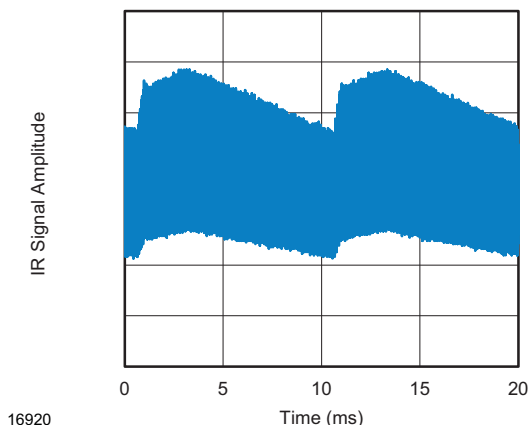

Fig. 14 - IR Disturbance from Fluorescent Lamp With Low Modulation
- Strongly or weakly modulated pattern from fluorescent lamps with electronic ballasts (see Fig. 14 or Fig. 15)